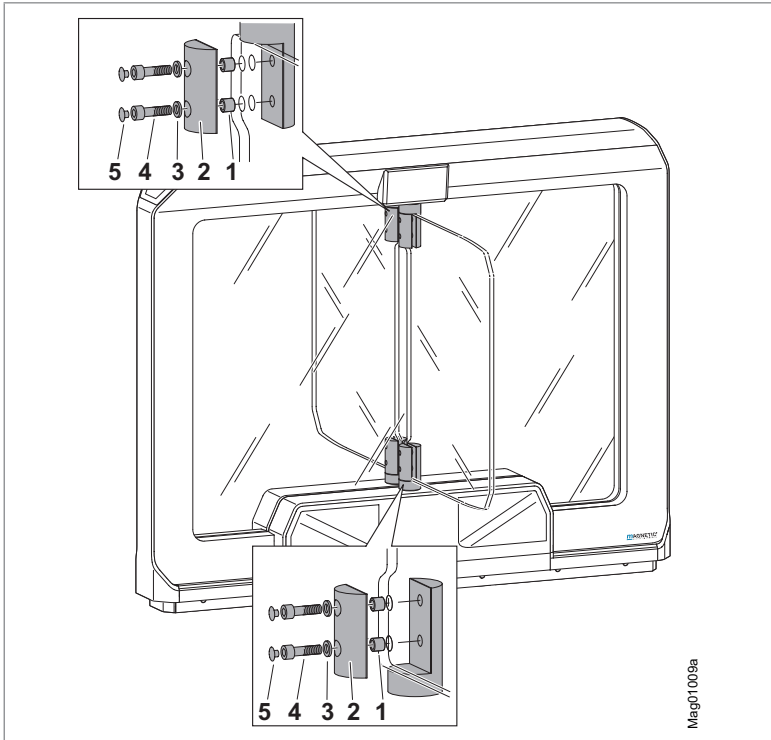

Fig. 36: Mounting the swing wing at standard height
- › Swing wing at standard height: ↗ Page 66, Fig. 36.